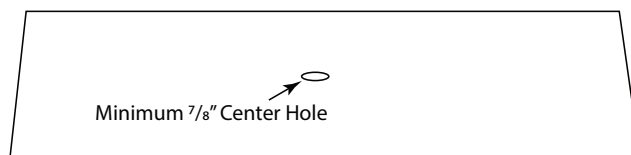
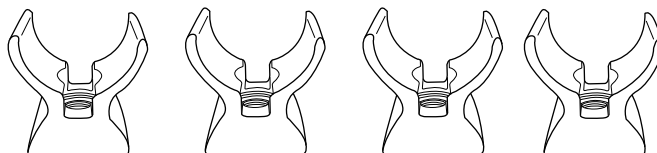
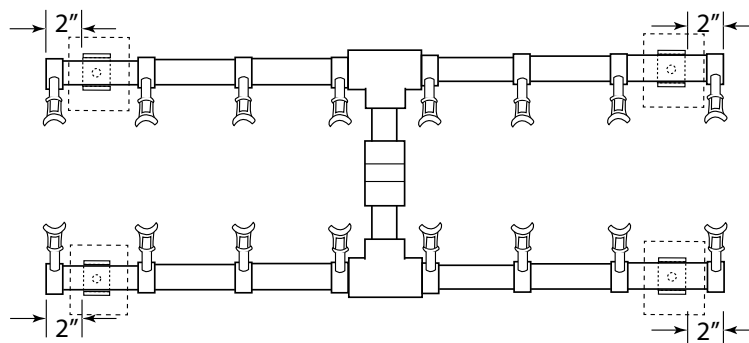

Fig. 4 Shows burner pan center hole.
Fig. 6 Brass burner supports.
Fig. 7 Locating brass burner supports.
All Pro H-burners come ready to install and have a $\frac{3}{8}$ " male center nipple. The burner must be installed as shown in Fig. 4 with center nipple facing downward. Ensure to seal each NPT fitting with thread tape or pipe compound.
The burner pan requires a center hole a minimum of $\frac{7}{8}$ -inch in diameter (Fig. 4). The burner also is supplied with (3) brass burner supports required for assembly (Fig. 6).
Step 2: Using the brass burner supports (supplied) in Fig. 6, install one support on every other leg, 2-inches from the end of each leg. See Fig. 7. **Note:** The Pro Spur will fit snug into each burner support.